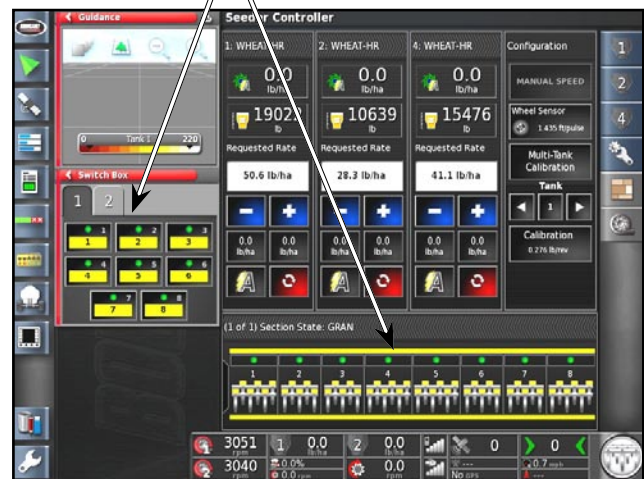

Figure 8.60 - Section Switches
- Units with ASC:** Ensure section switches are ON on the X30 console, refer to Figure 8.60.